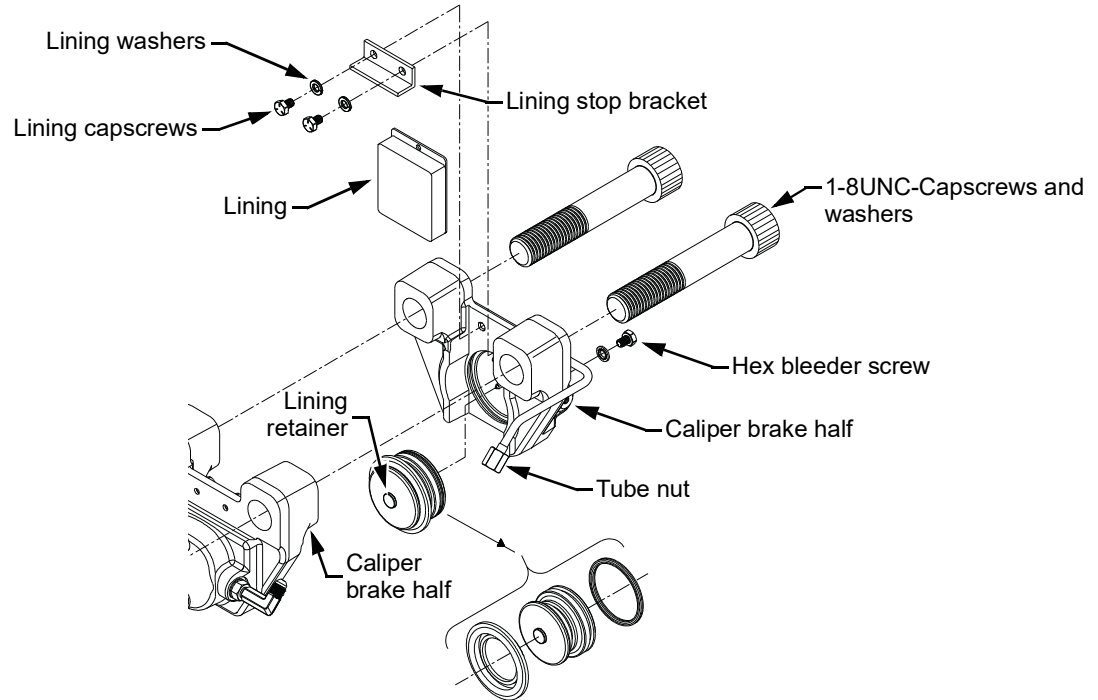

Figure 2: Piston assembly
3. Remove the (2) lining capscrews, (2) lining washers, (1) lining stop bracket, and lining from the brake caliper half.
5. Pull the piston assembly from the brake housing cylinder as shown in Figure 2 on page 3.
1. While hydraulic pressure is applied to the brake, gently loosen the hex bleeder screw shown in Figure 2 on page 3 which is at the highest position of the caliper half.